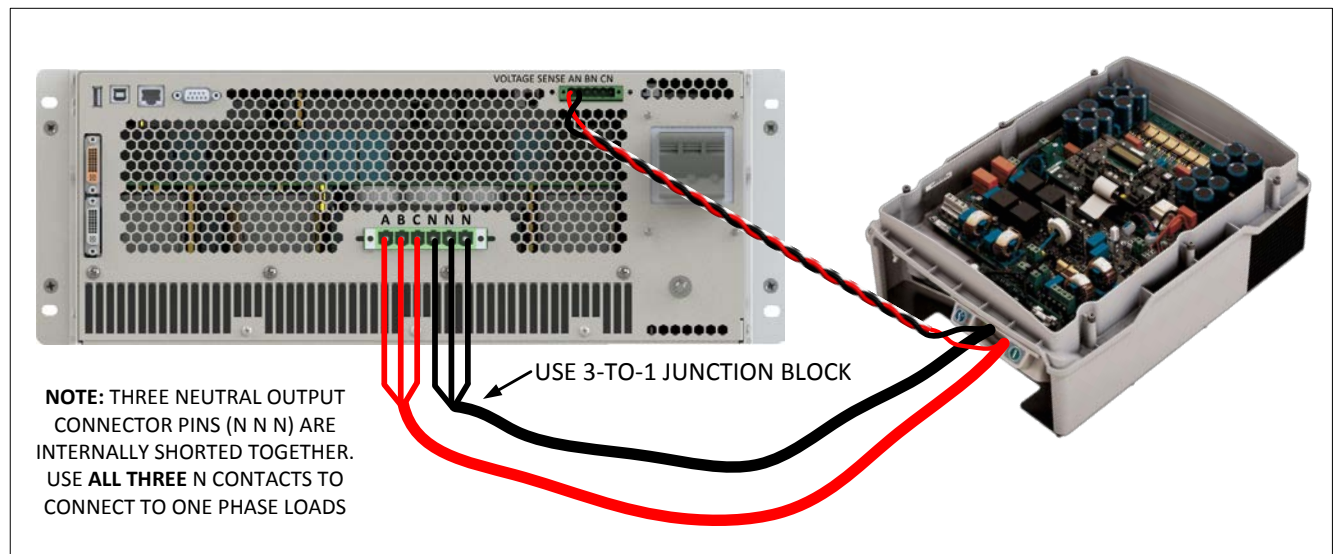

Figure 1: DC Load Connection with External Voltage Sense wiring
For maximum DC current, use the single phase mode so all DC current is available for testing a single EUT. Figure 1 shows connection of a DC load in single phase mode. **Note** that wire size must be chosen to support max. DC current on both positive (L) and negative (N) terminals.